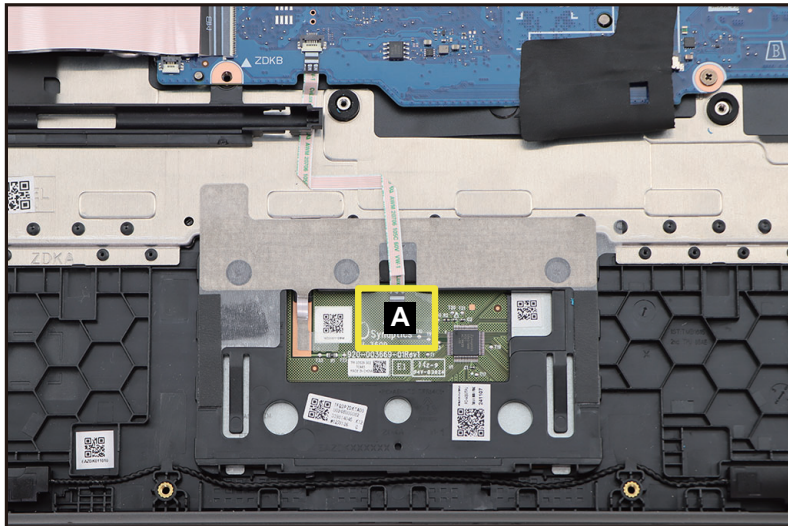

Figure 1-13. Touchpad Module Removal
1. Detach the mylar (A) securing the touchpad FFC connection (Figure 1-13).